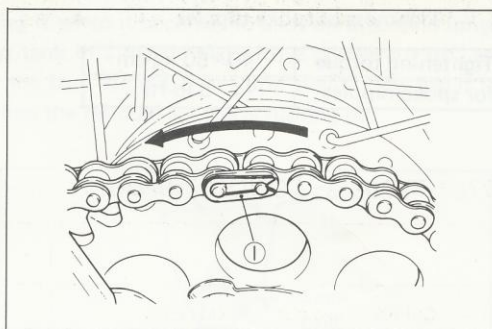

Fig. 156. Chain joint clip position
The correct position of the joint clip ①, shown in Fig. 156, must be observed in connecting the two ends of the drive chain at the time of remounting it. Note that each clip ① has its ends pointed rearward, that is, counter to the direction of rear wheel rotation.